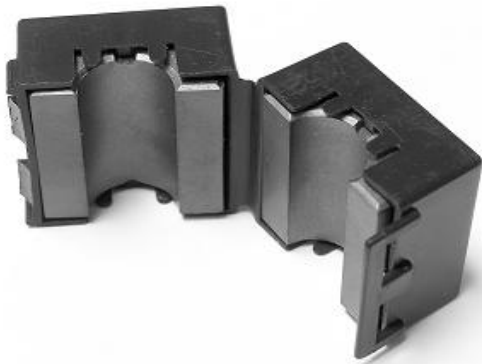

FIGURE 3. Ferrite clamp (open)
3. Hold the open clamp (Figure 3) at a place where the three wires are accessible.